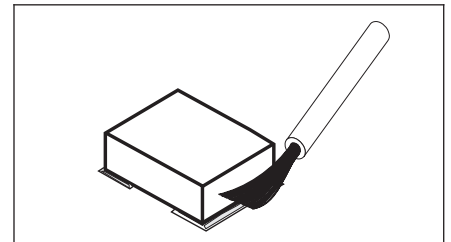

Figure 1 Flux Component
4. Apply flux to component terminations. (See Figure 1.)